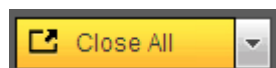

Figure 7-4
- Section 2: There are channel number and one button: Start all. Start all button is to enable/disable all-channel real-time monitor. Click it the button becomes yellow. See Figure 7-4.